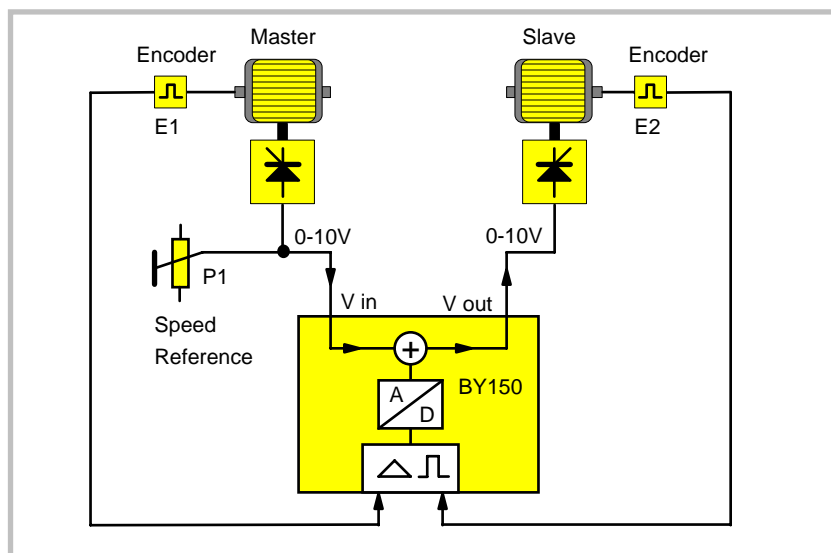

Fig. 3
Fig. 3 shows that a **feed forward signal "Vin"** is needed to run the drives, and a correction voltage is added to receive the total slave speed reference "Vout". It is easy to understand that the feed forward signal must be proportional to the master speed. There are two ways to generate Vin:
- a) Use of the master speed reference voltage, like shown in Fig. 3. This presumes the master drive does not use any remarkable internal ramps, because otherwise Vin would not represent the real master speed upon acceleration or deceleration. As a result, procedure a) must only be used when the master speed reference already includes the ramp (generated by a PLC output etc.) and the drive's internal ramp is set to zero or it's minimum value. However, a real speed analogue signal from a tacho generator can be used at any time. **Analogue feed forward should only be used when replacing older existing BY150 units against a new one.**